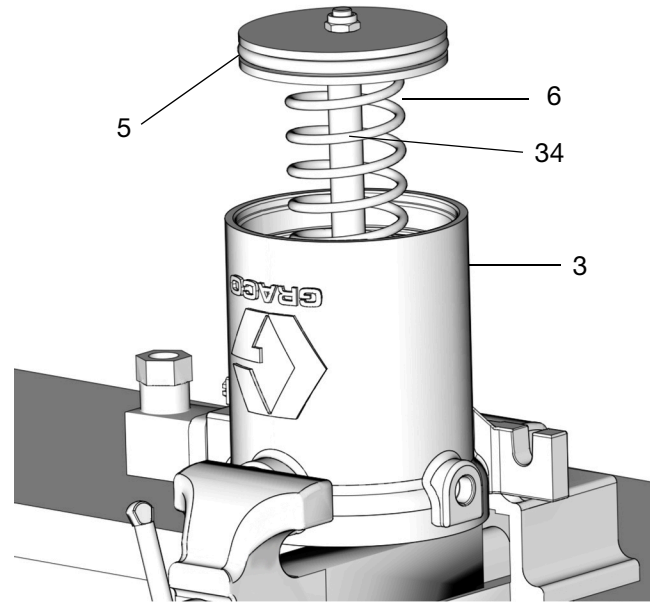

FIG. 20
19. Secure a wrench on the cover nut (1a). Turn it counter-clockwise to loosen and remove the cover (1) from bottom of the air motor cylinder. (FIG. 20).
21. Remove the piston rod (34), the piston (5), and the spring (6) from the air motor cylinder (3) (see FIG. 20, page 17).